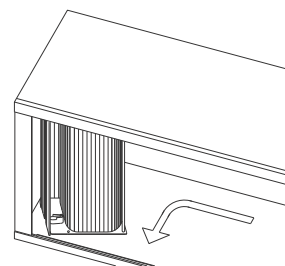

Fig. 5
4. Move the spring mechanism at the top position, front facing outside and draw the rolling shutter through left & right track. Refer Fig. 5, 6, 7.